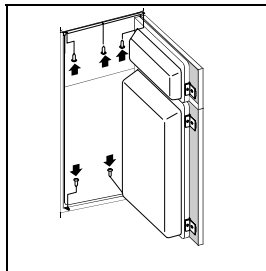

Fig. 5
- Fix the appliance into the kitchen unit. On the upper side, fix the three screws A 4 x 12 through the rail and on the lower side with two screws A 4 x 16, through the lower hinges. Drill holes,  $\varnothing 3 \times 5$  (Fig. 5).